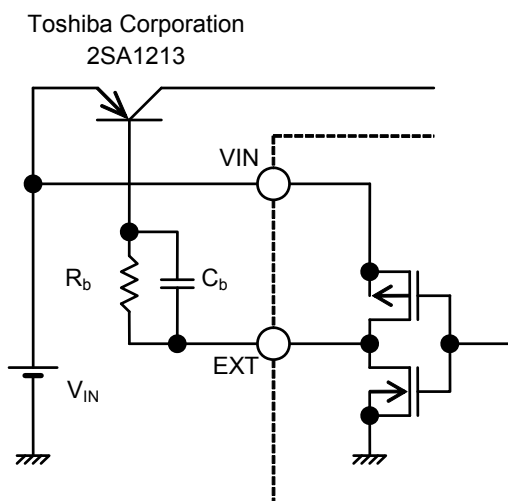

Figure 11
**Figure 11** shows the sample of circuit diagram using Toshiba Corporation 2SA1213 as the bipolar transistor (PNP). The  $h_{FE}$  value and the  $R_b$  value of that bipolar transistor determine the driving capacity, which is used for increasing the output current.
A small  $R_b$  value increases the output current, but it also decreases efficiency. Determine the optimum value through experiment, since the base current may flow on the pulse, or voltage may drop due to wiring resistance. In addition, if speed-up capacitor  $C_b$  is connected in parallel with resistor  $R_b$ , as shown in **Figure 11**, the loss in switching will be reduced, leading to higher efficiency.